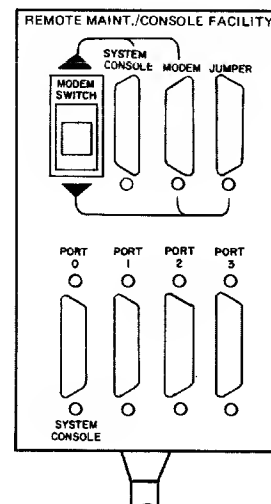

Figure 3-1. Processor-to-Console Cable Routing and Connection View
- Route the HP-IB I/O cables, ADCC cables, and AC power cord as shown in figures 3-1 and 3-2.
6. Route the free end of the cables (items 2,4, and 5) shown in figure 3-1 to the system console as described in table 3-1.